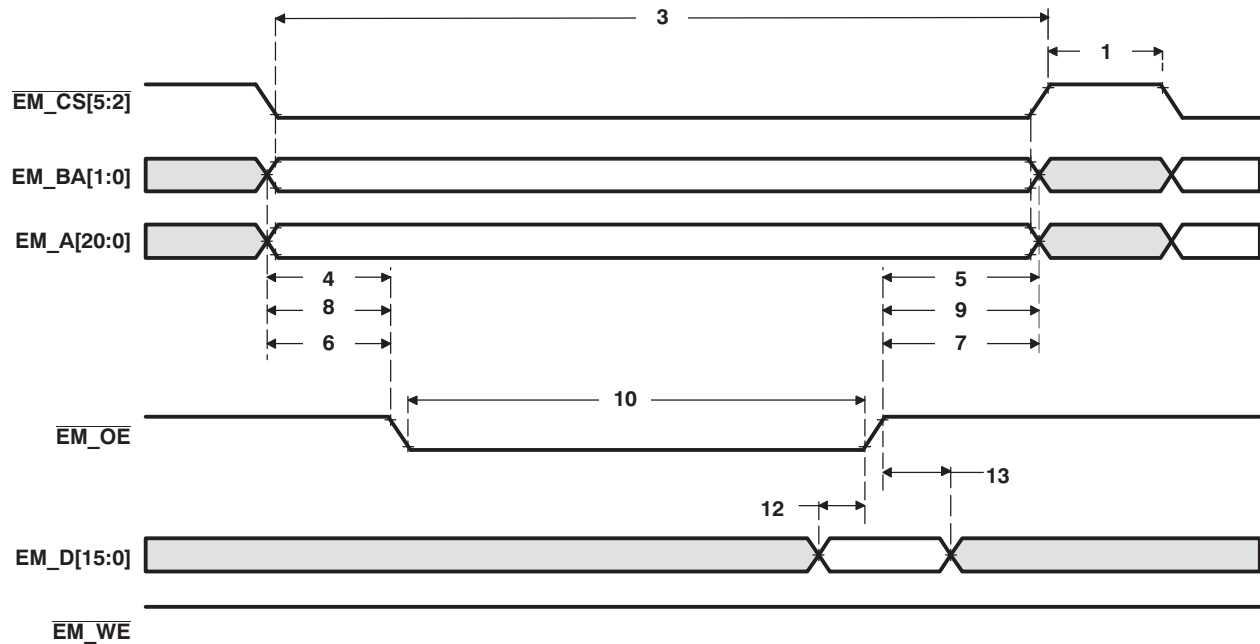
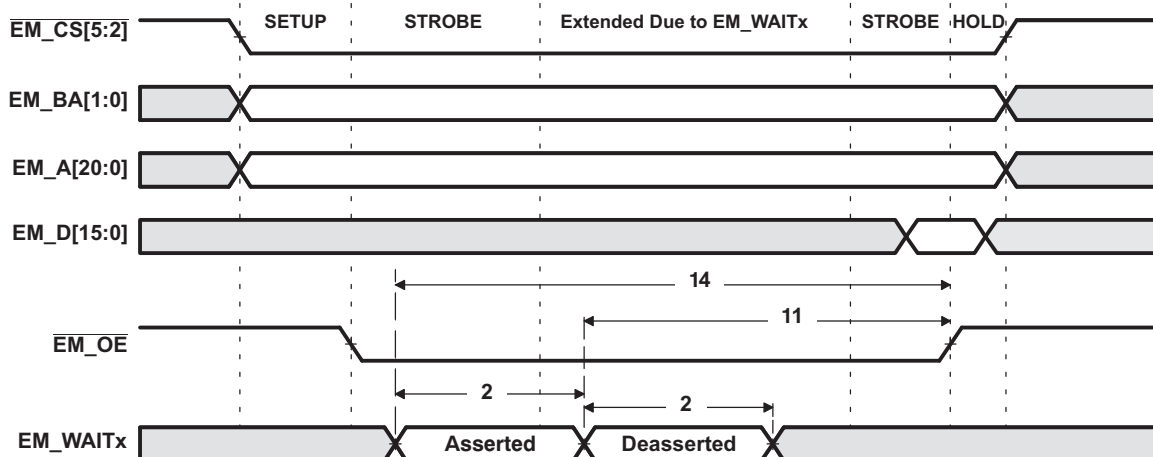
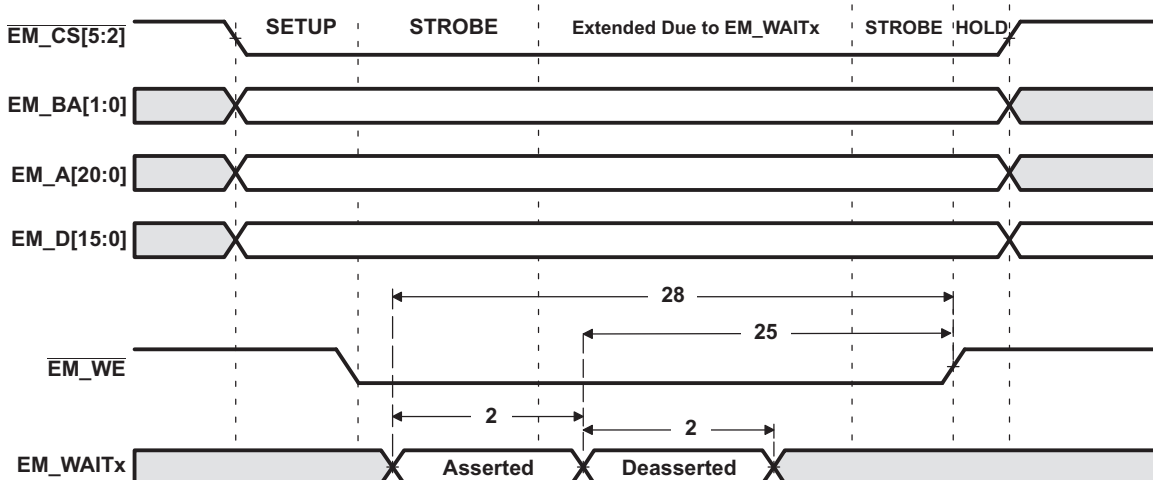

Figure 5-24. Asynchronous Memory Read Timing for EMIF
Figure 5-26. EM_WAITx Read Timing Requirements
Figure 5-27. EM_WAITx Write Timing Requirements
- (1) Timing parameters are obtained with 10pF loading on the EMIF pins.
(2) E = SYSCLK period in ns. For example, when SYSCLK is set to 75 or 200 MHz, E = 13.33 or 5 ns, respectively.
(3) Setup before end of STROBE phase (if no extended wait states are inserted) by which EM_WAITx must be asserted to add extended wait states. Figure 5-26 and Figure 5-27 describe EMIF transactions that include extended wait states inserted during the STROBE phase. However, cycles inserted as part of this extended wait period should not be counted; the 4E requirement is to the start of where the HOLD phase would begin if there were no extended wait cycles.
(see Figure 5-24, Figure 5-26, and Figure 5-27)
(see Figure 5-24, Figure 5-26, and Figure 5-27) (continued)
⁽⁴⁾ (see Figure 5-24, Figure 5-26, and Figure 5-27)
⁽⁴⁾ (see Figure 5-24, Figure 5-26, and Figure 5-27) (continued)